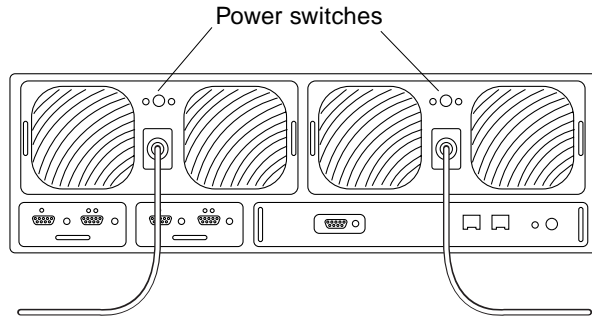

FIGURE 9-1 Power Switch Location
Press the power button once on each power and cooling unit to turn the switch off (FIGURE 9-1).
FIGURE 9-1 shows the power button location. The AC and power supply (PS) LEDs on the power and cooling units show green.